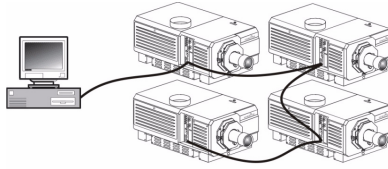

Figure 2-1 Serial Connection
- Figure/Table References e.g., Figure 2.1, Table 4.3